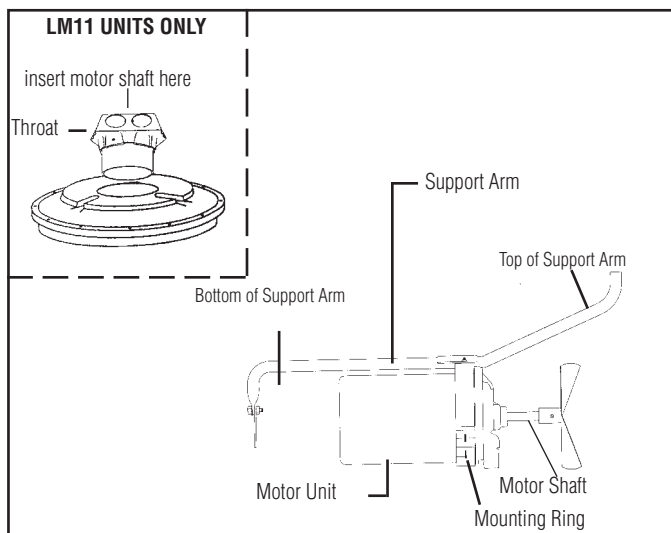

Figure 3
C. Step 3 --see figure 3.
- a. Attach the support arm (that was just assembled to the support arm brace) to the mounting ring using: (2) 1/4" flange nuts.